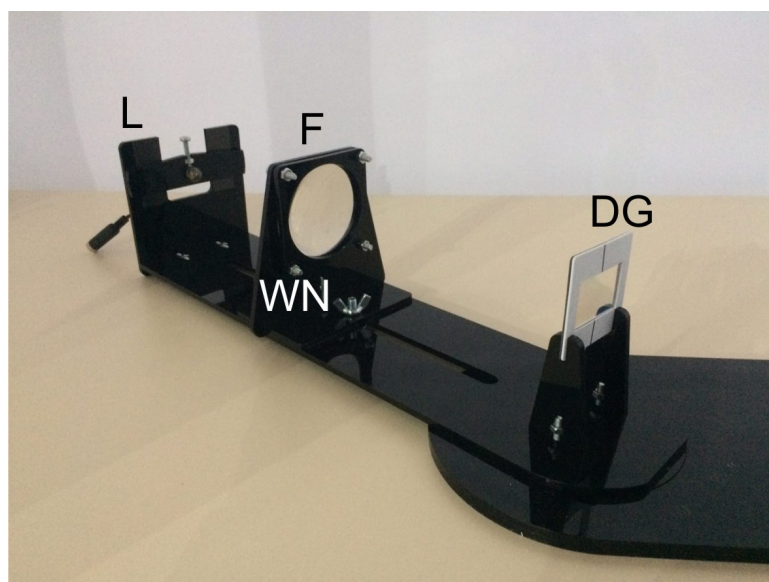

Fig 4: Diffraction arm
For spectral measurements, you will need diffraction arm (fig. 4) to obtain different wavelengths. Diffraction arm is composed of the filament lamp (L), a diffraction grating (DG) in the holder and a movable lens (F) between them. To install the diffraction arm place the disk into the left hole of the main bench.